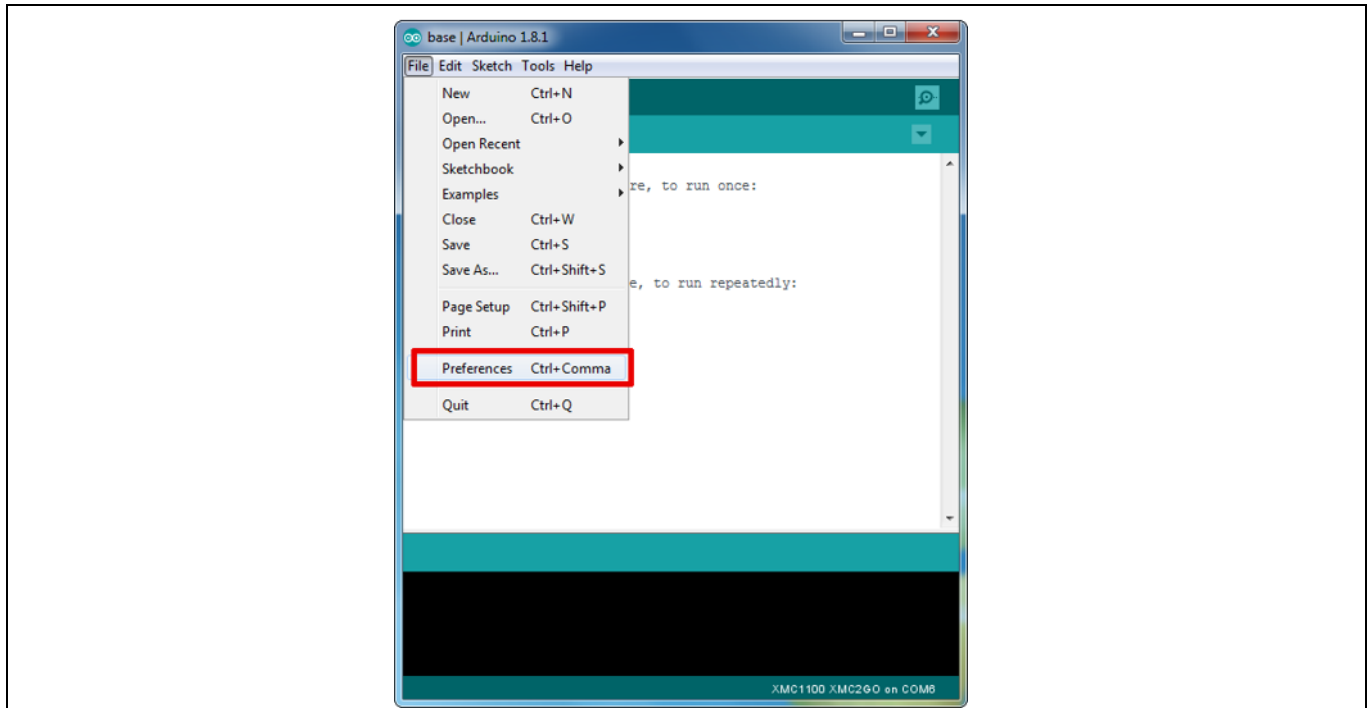

Figure 7 Arduino IDE: File > Preferences
2. Navigate to *File > Preferences* (Figure 7).